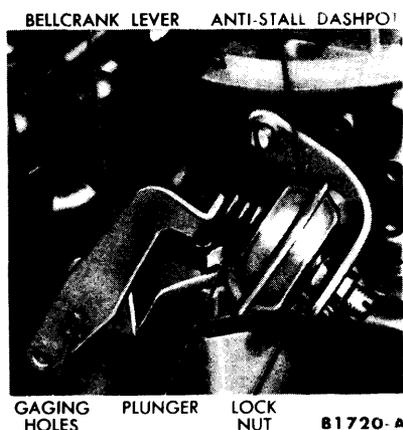

FIG. 8—Anti-Stall Dashpot Adjustment
1. Insert a 1/8-inch diameter rod through the gauging holes (Fig. 8) provided in the bellcrank lever and mounting bracket on the left side of the bellcrank assembly. This locks the lever in the gauging (closed throttle) position.
2. Lock the throttle linkage in the gauging position by inserting a 1/8-inch diameter rod through the gauging holes provided in the bellcrank lever and mounting bracket on the left side of the bellcrank assembly (Fig. 8).